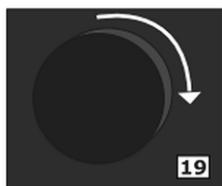

Fig. 23
2. Turn the rotary control knob (19, Fig. 23) to display the thermal processing phase to be changed.